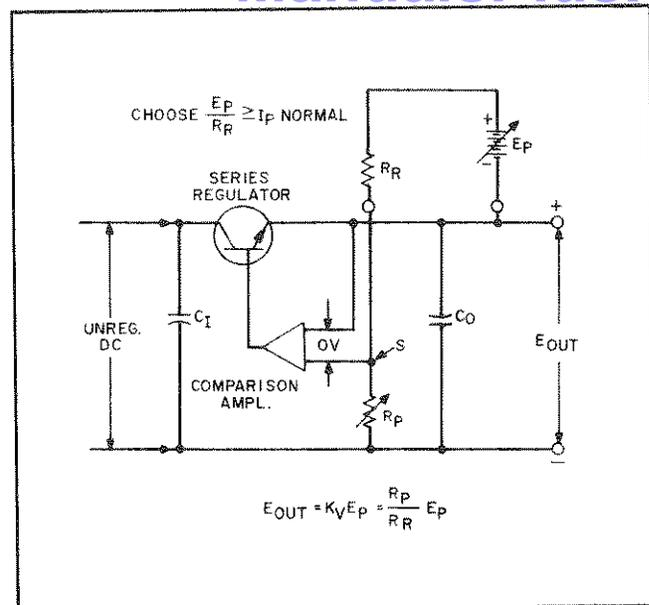
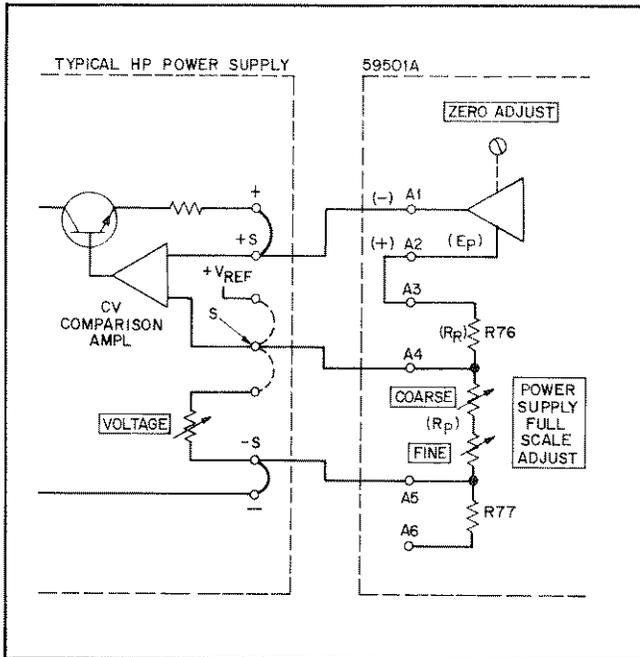

Figure 3-4. Voltage Programming with Variable Voltage Gain
Figure 3-5. Typical Connections for CV Programming
3-41 Figure 3-4 illustrates the method by which a power supply's constant voltage output can be programmed using an external voltage with a voltage gain dependent upon the ratio of  $R_P$  to  $R_R$ . Note that this method is no different from the circuit normally used for constant voltage control of the output except that an external reference (the programming voltage source) has been substituted for the internal reference. On most supplies, external terminals are available so that the connections shown in Figure 3-4 can be accomplished without any internal wiring changes. In all HP remotely programmable power supplies, the summing point S is made available, and the configuration of Figure 3-4 can always be accomplished using the external programming voltage source  $E_P$  and external precision wire-wound resistors  $R_P$  and  $R_R$ . ( $R_R$  should not exceed 10k.) As indicated by the equation in Figure 3-4,  $R_P$  can be selected so that the resulting voltage gain is either less or greater than unity. It is possible to use the front panel control on the supply as the voltage gain control  $R_P$ .
3-42 **Constant Voltage.** Figure 3-5 illustrates the connections required for the 59501A to program the constant voltage (CV) output of a typical HP power supply. Note the similarities between Figures 3-4 and 3-5. The 59501A includes  $R_R$  (R76),  $R_P$  (COARSE and FINE POWER SUPPLY FULL SCALE ADJUST), and  $E_P$  (59501A output between terminals A1 and A2). The extra resistor (R77) between terminals A5 and A6 is used only when programming power supplies above 300 volts.
3-43 As shown in Figure 3-5, the supply's internal reference voltage ( $+V_{REF}$ ) and VOLTAGE control are disconnected (dotted lines) and are replaced with the 59501A's output voltage and POWER SUPPLY FULL SCALE ADJUST. Note that in the unipolar mode, 59501A output terminal A1 is negative with respect to A2. This polarity must be complied with when making connections. The connections shown in Figure 3-5 are typical for most supplies.